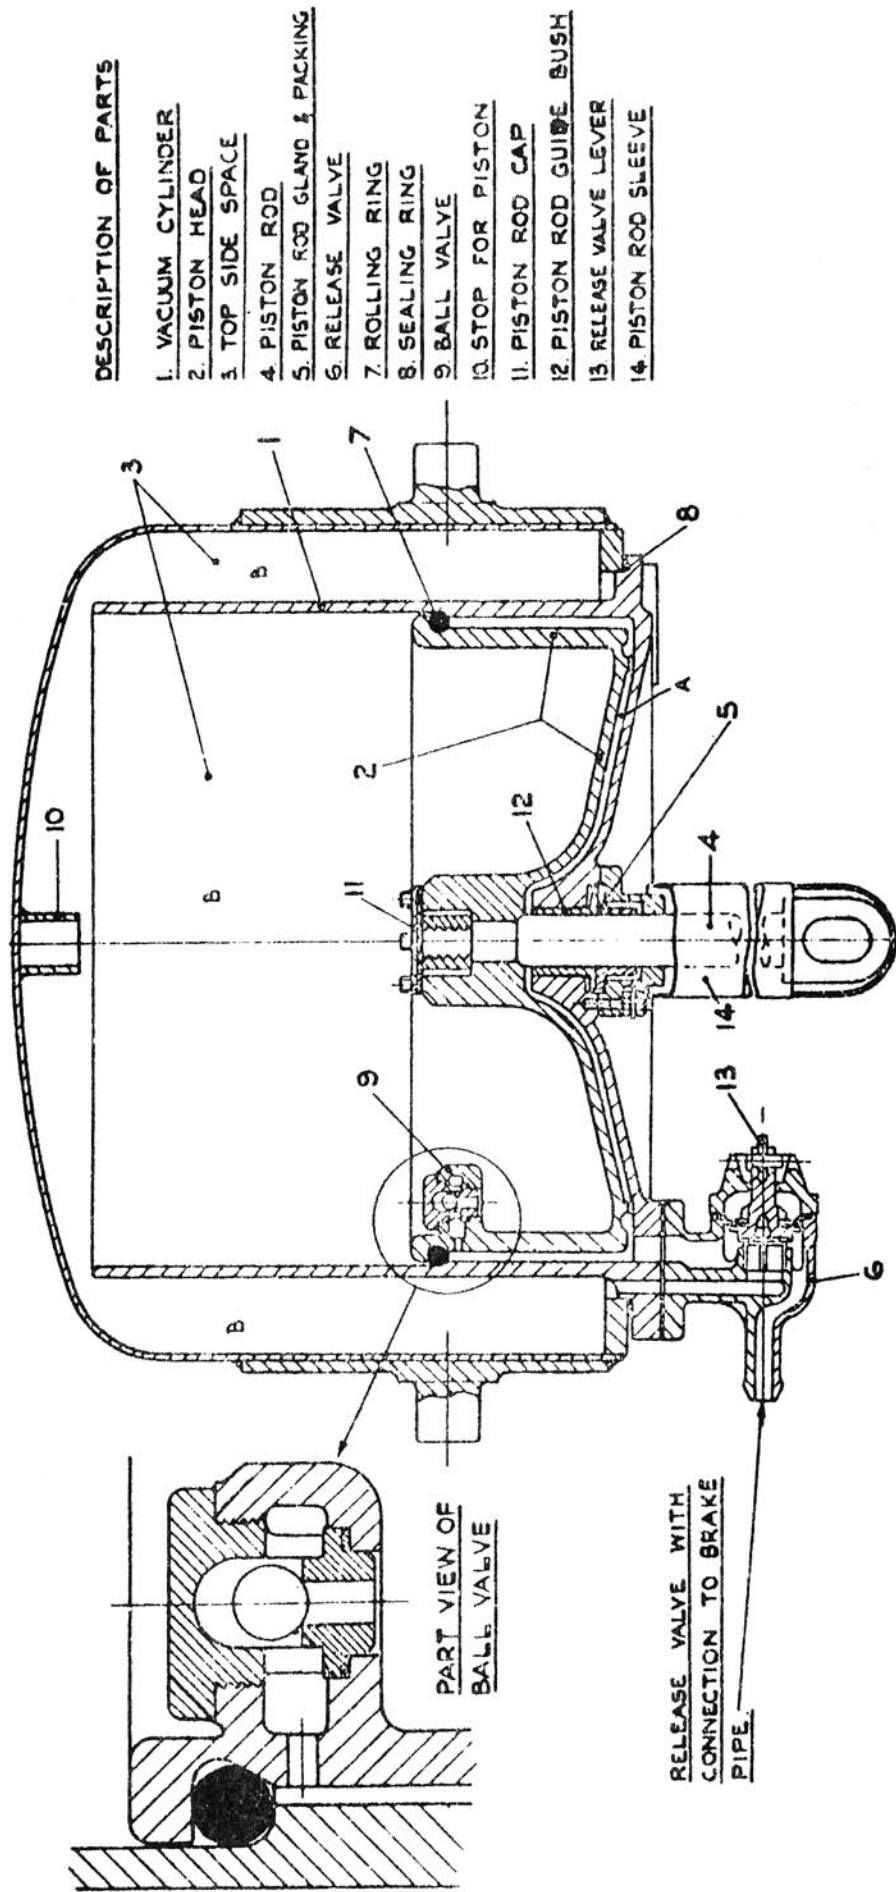

Fig 7 Type E1 Brake Cylinder
E.1 CLASS ROLLING RING CYLINDER (FIG. 7)